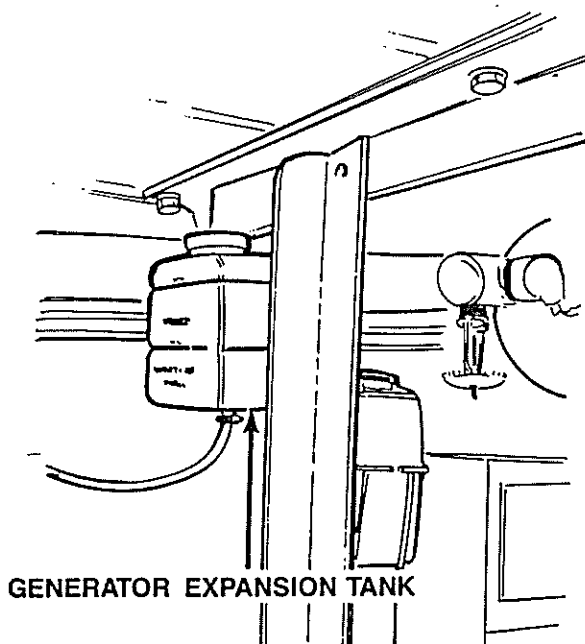

Figure 3-8 Checking Generator Coolant Level
12. See Figure 3-8. Check that the generator coolant level in the expansion tank is between the upper and lower marks.